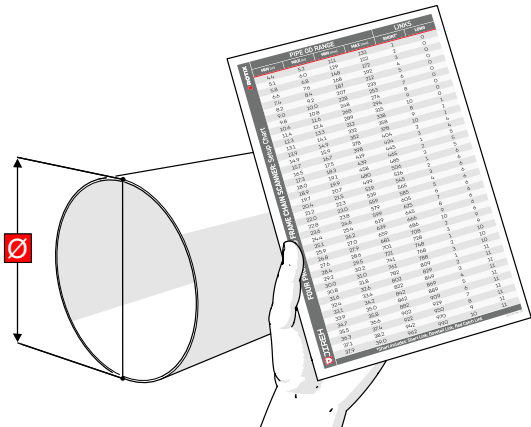

Fig. 70 - Refer to setup chart
1. Determine the diameter of the pipe or tube to be scanned. Included in the **SKOOT•X** kit and in this manual are setup charts which indicate the number of QuickLinks that are required based on the diameter of the pipe or tubing. Refer to the chart based on the number of probes to be used when scanning (Fig. 70).